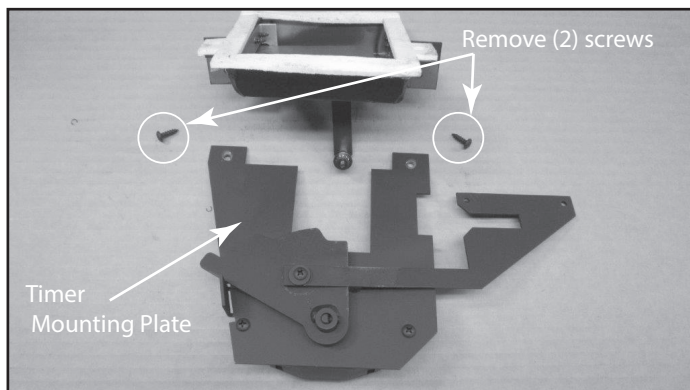

Figure 4.14 Disconnect Air Chamber Cover
- Disconnect air chamber cover from timer assembly before installing in the fireplace. Set screws aside for later use. See Figure 4.14 .